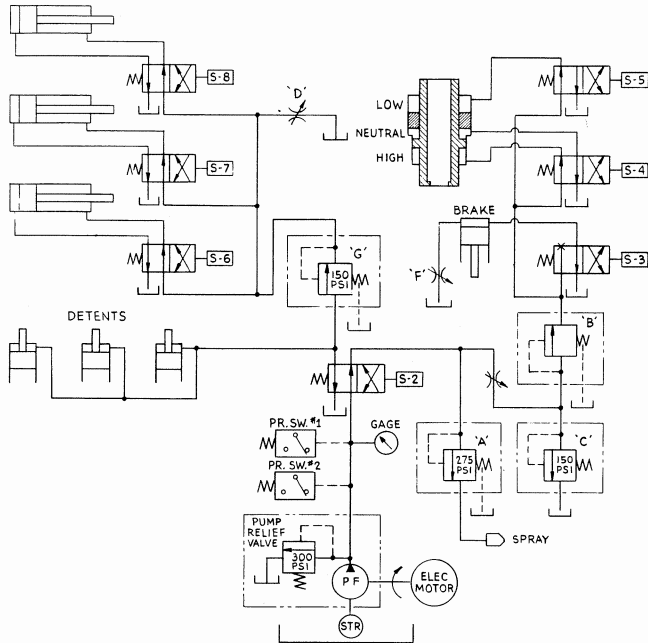
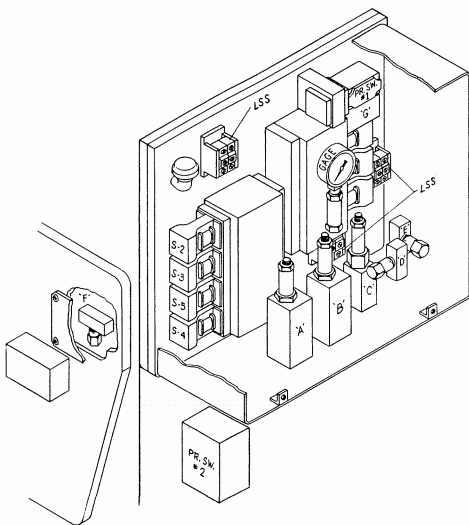

FIG. 3
FIG. 4
panel. If the power lines have been connected to give the correct rotation of the motors, the gage in Figure 4 will show about 275 lbs. pressure, and the main motor will start. If the gage does not show pressure within a few seconds, press the "STOP" button and reverse two of the incoming leads.
1. Figure 3 is the headstock hydraulic diagram with adjustment points indicated. Figure 4 shows the location of these adjustment points on the machine.
3. Limit switches on the main control lever and on the preselector drum control all solenoids in Figure 3. Limit switches are numbered according to the electrical diagram located in the machine electrical control box.